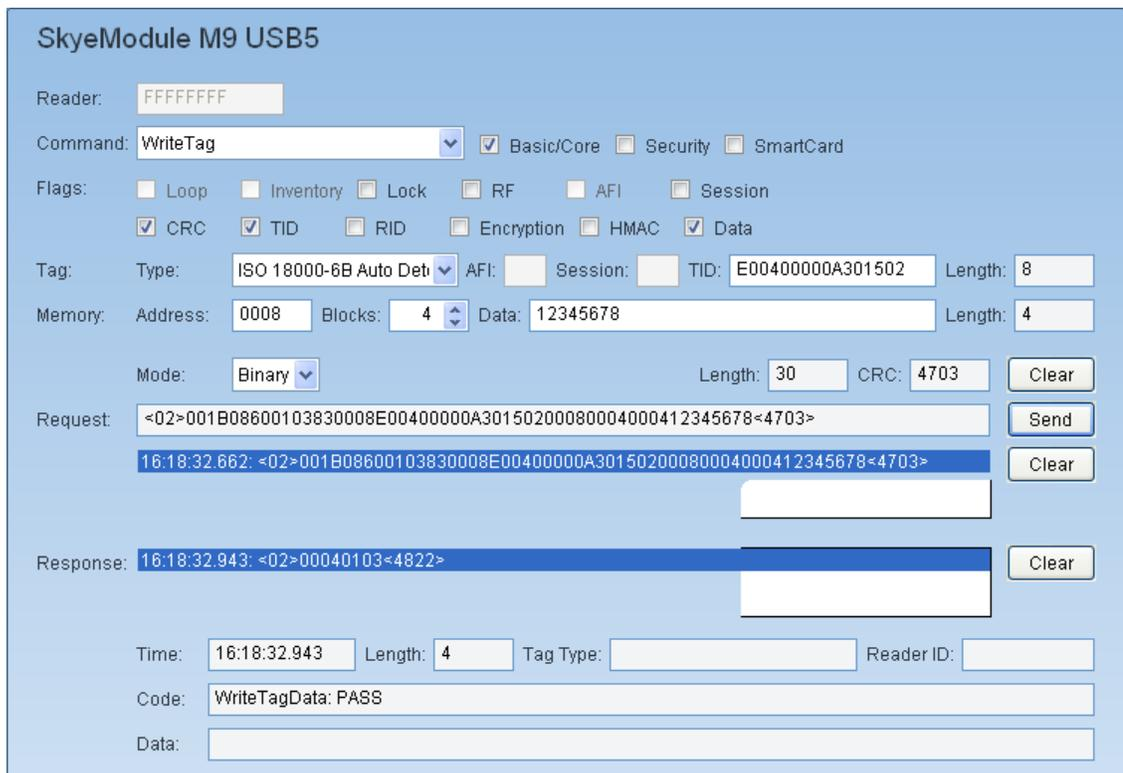

Figure 3-11 Writing to a Tag
6. Click the **Send** button. This writes the data to the address specified and displays the response from the reader (Figure 3-11).